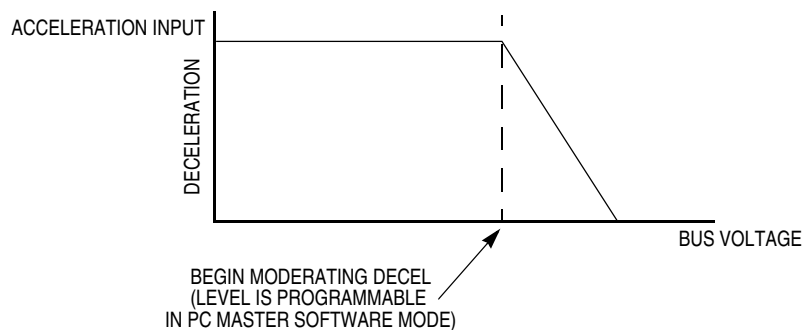

**Figure 7. Deceleration as a Function of Bus Voltage**
- **Automatic Deceleration Control** — When decelerating the motor, the MC3PHAC attempts to use the specified acceleration value for deceleration as well. If the voltage on the DC\_BUS pin reaches a certain threshold, the MC3PHAC begins to moderate the deceleration as a function of this voltage, as shown in Figure 7. The voltage range on the DC\_BUS pin from when the deceleration begins to decrease, to when it reaches 0, is 0.62 volts. In standalone mode, the DC\_BUS voltage where deceleration begins to decrease is fixed at 3.85 volts (110 percent of nominal) where nominal is defined to be 3.5 volts. In PC master software mode, this threshold can be set to any value between 0 volts (0 percent of nominal) and greater than 5 volts (143 percent of nominal) and can be changed at any time.